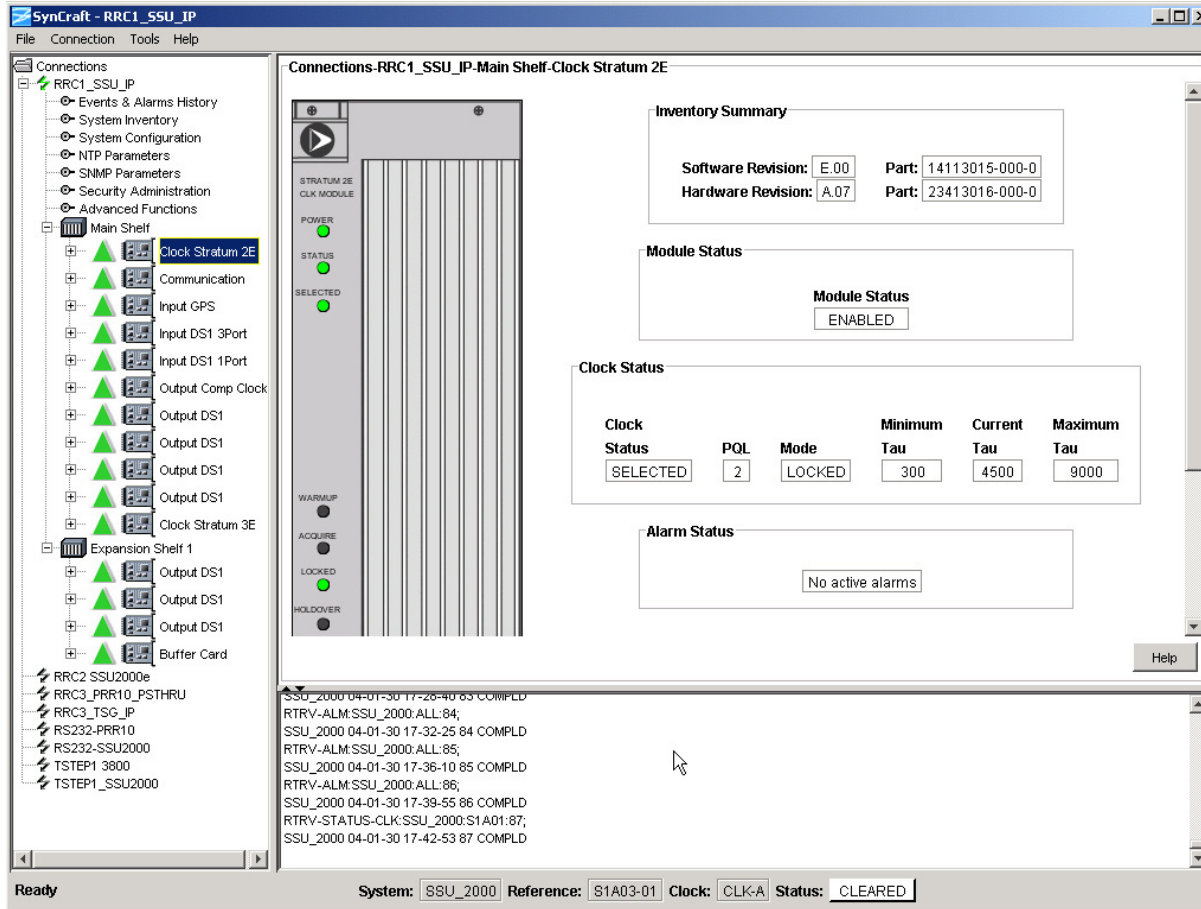

Figure H-8. Stratum 2E Clock Module in SynCraft Window
5. Select the Main Shelf, and then select the first Clock module. A screen similar to the one shown in Figure H-8 appears.